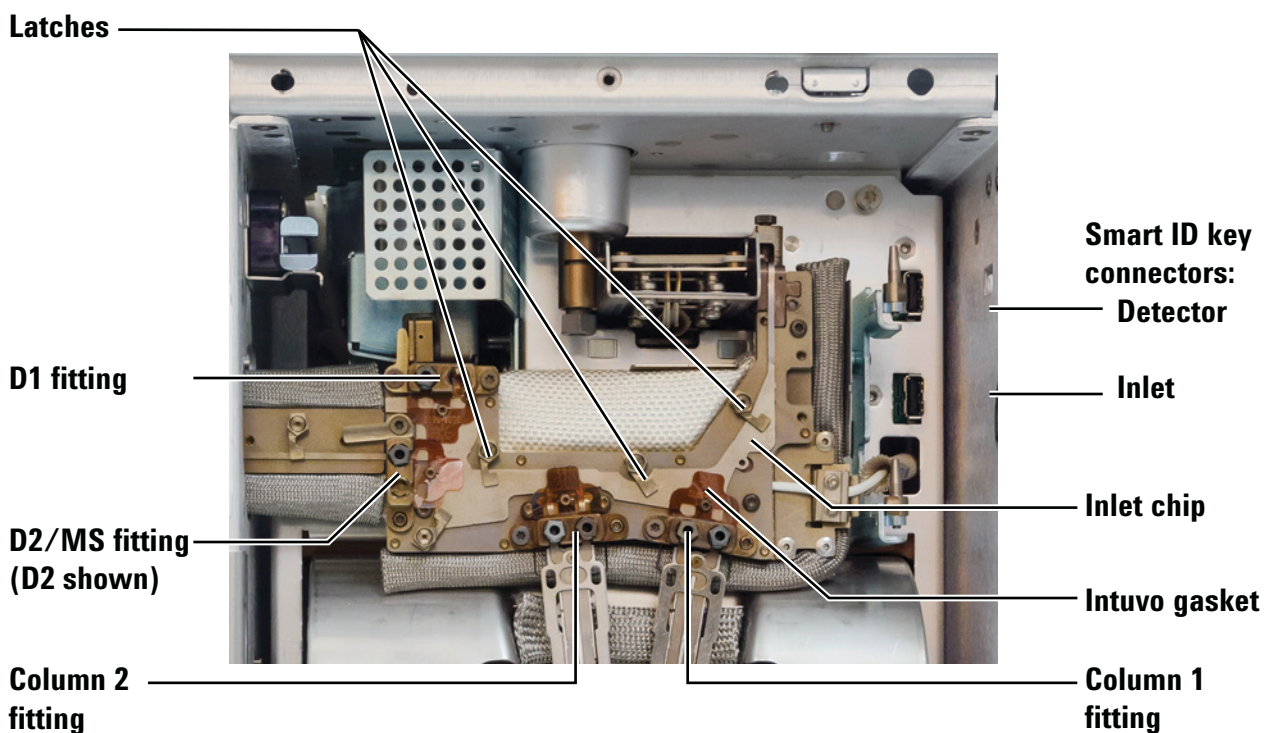

Figure 6 Intuvo bus components with inlet splitter accessory installed (split/splitless inlet shown)
Figure 6 shows the Intuvo major bus components.
The inlet and detector flow chips (see Figure 6) must be installed before installing a column or detector tail.
- 7 Use the torque driver to open the clips that secure the inlet splitter chip to the bus. See Figure 6.
- 12 Install new gaskets (4) in each click and run fitting.